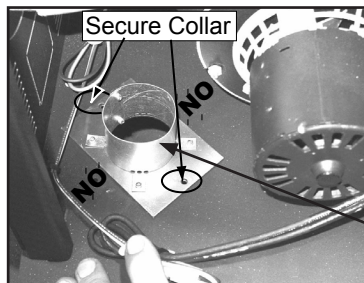

Figure 18.2
- Align and secure collar assembly with 2 of the 4 holes as shown. **Figure 18.2.**